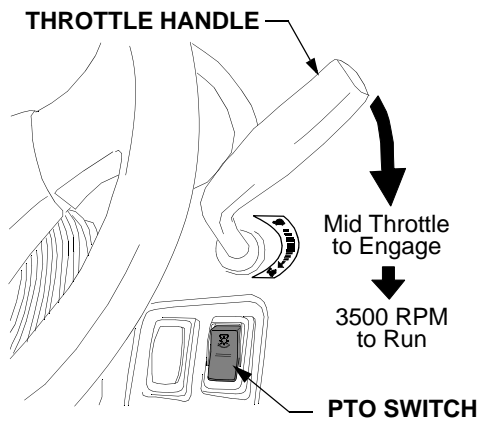

Figure 20
- Move the throttle handle to the mid throttle position. Refer to Figure 20.
- Push the top of the PTO switch downward to engage the PTO (Refer to Figure 20). The PTO light on the instrument panel will come on.